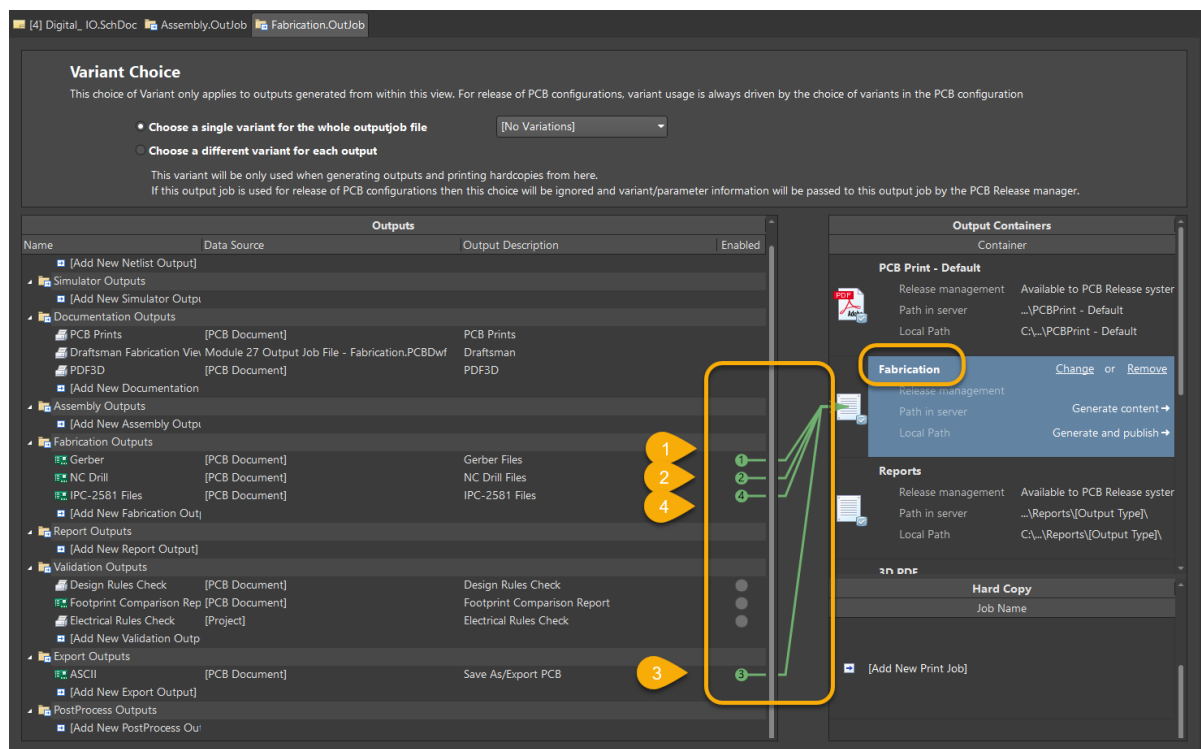

Figure 7. Output Job File with outputs linked to PDF container
23. In the *Output Containers* section on the right side of the Output Job file, click on **Fabrication** to select it, as shown in Figure 7.
24. Check the radio buttons in the *Enabled* column and the connections from the radio buttons to the Output Container. This is the configuration to map the outputs to a container in a specific order, shown in Figure 7.